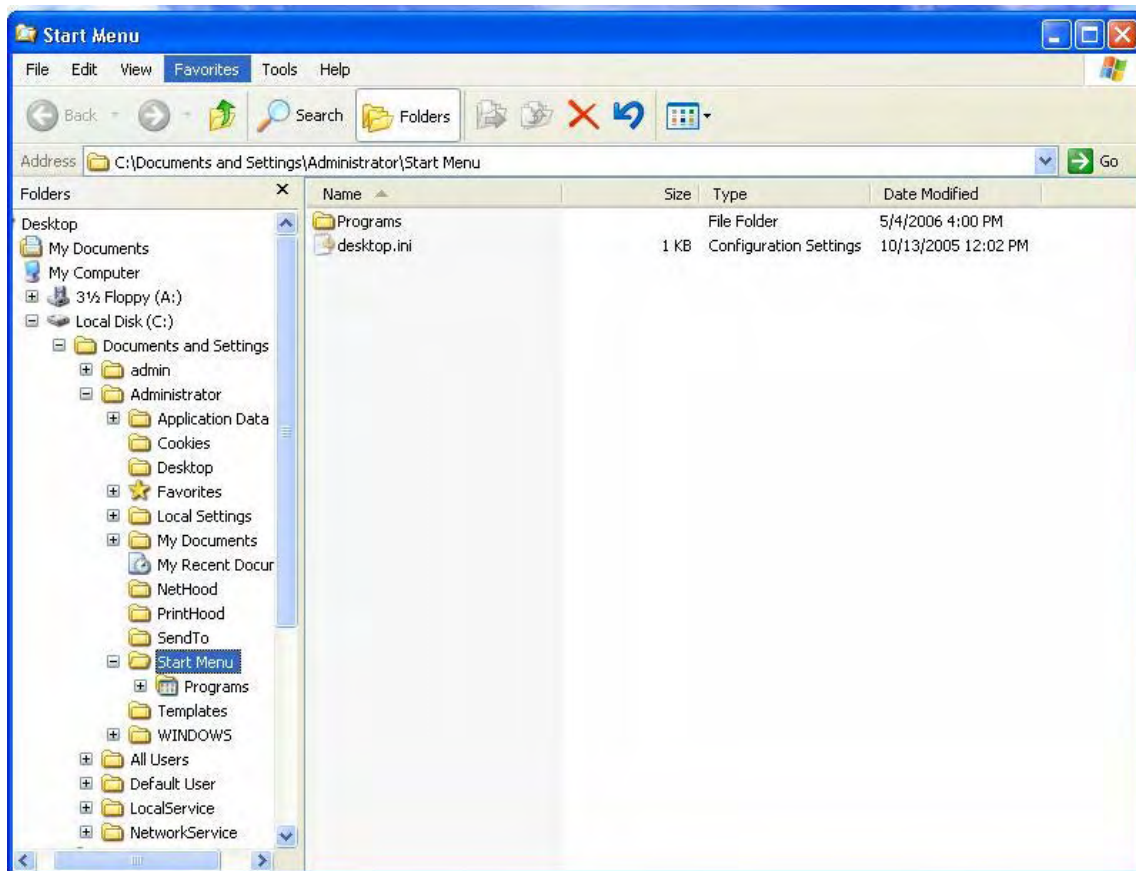

Figure 1-70. Explorer Window
2. Click on - at the beginning of 'Documents and Settings' to collapse folders. Select **Local Disk(C:)** (Figure 1-70).